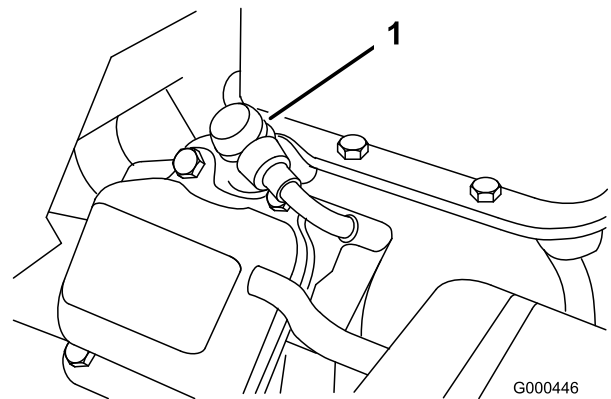

Figure 25
1. Pull molded wire off spark plug (Figure 25).